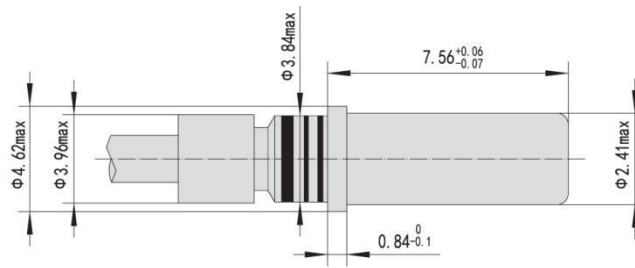

Figure 2.5
- ⑦ Put the braid crimp sleeve forward to ensure the size of 6.1-6.86mm. Cut out the excess shielding net at the front end of the braid crimp sleeve. Use the crimp tool M22520 / 05-01 and positioner M22520 / 05-03: once, the outer diameter of the sleeve must be less than 3.96mm.
⑧ Figure 2.5 shows the crimp 12 # coaxial pin